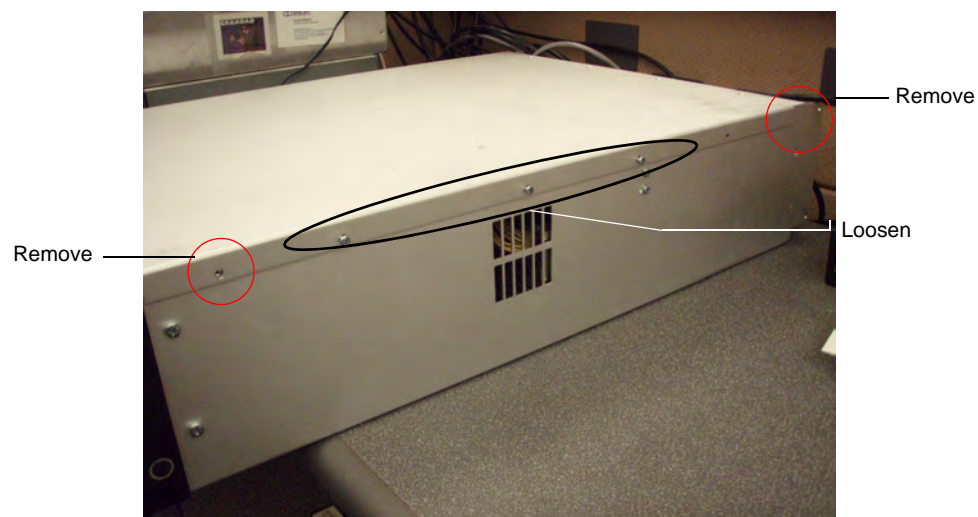
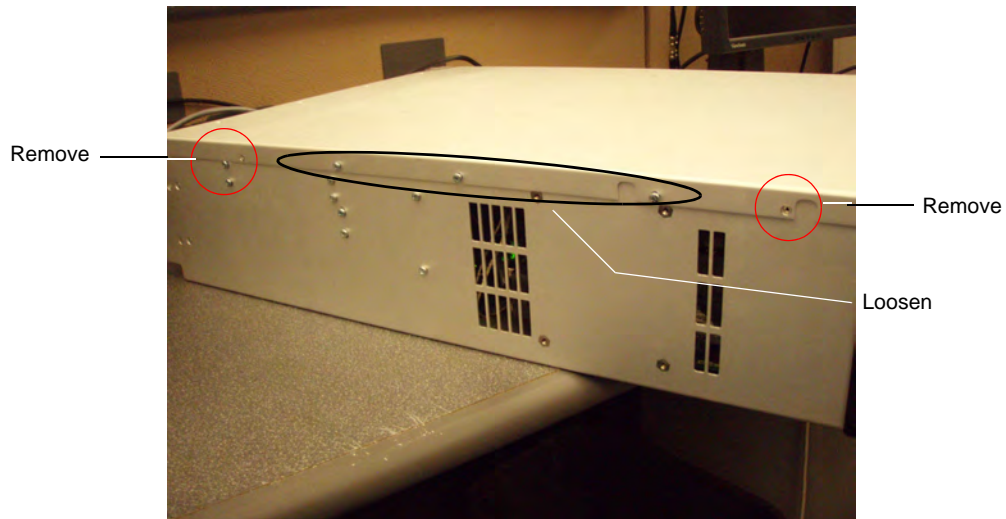

Figure 4 Right-Side Screws
Figure 5 Left-Side Screws
4. Remove the far-left and far-right screws on each side of the lid (two each on the right and left sides). Then loosen (but don't remove) the remaining (middle three) screws on the left and right sides of the lid, as shown in Figure 4 and Figure 5.